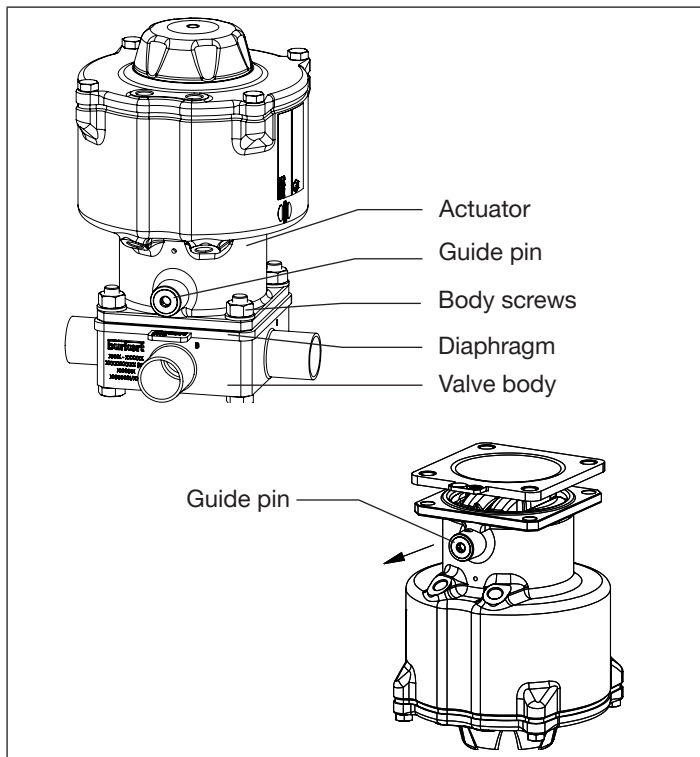

Fig. 18: Repairs
- Screw guide pin all the way in (“Fig. 18”).